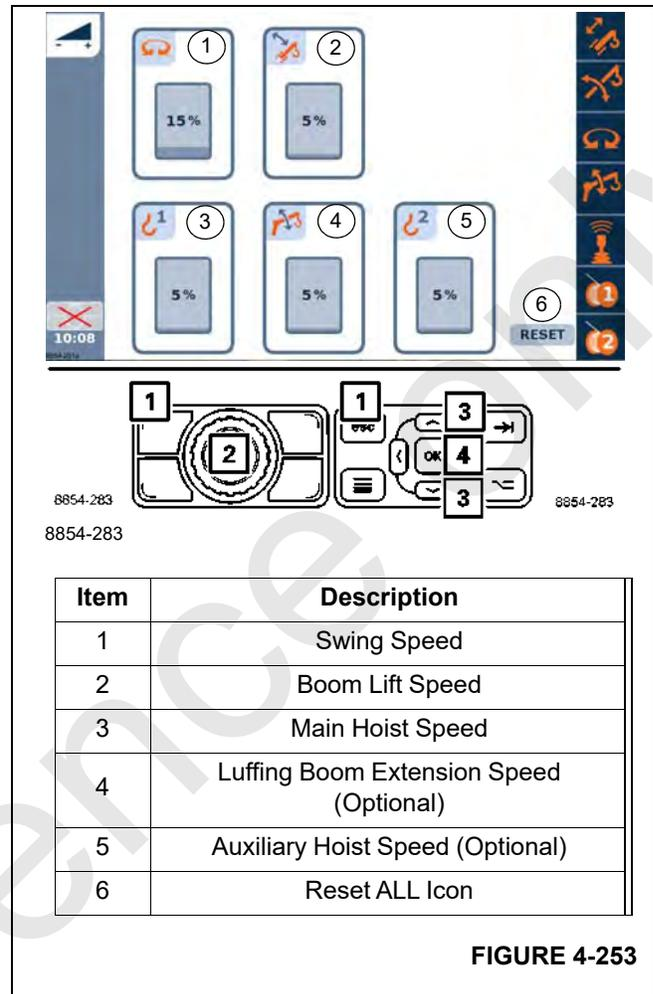

FIGURE 4-253
The values below the symbols (1) thru (5), (Figure 4-253) indicate the currently set controller function speeds.
The symbol (5), (Figure 4-253) is only active when the auxiliary hoist is connected.
Symbol (6), (Figure 4-253) resets all values without prior selection.
1. Using the Jog Dial (2), (Figure 4-253) or Arrow Buttons (3), (Figure 4-253) on the Navigation Control Pad, select the controller function icon that is to be adjusted (Icon will turn orange).
2. Press the Jog Dial (2), (Figure 4-253) or OK Button (4), (Figure 4-253) to make the controller function icon active (Icon background will turn gray).
3. Using the Jog Dial (2), (Figure 4-253) or the Up/Down Arrow Buttons, adjust the percentage to the desired setting.
Adjustments are made in 1% increments/decrements. To quickly make large adjustments, hold down the Jog Dial (2), (Figure 4-253) while rotating it.
4. Press the Jog Dial (2), (Figure 4-253) or OK (4), (Figure 4-253) Button to accept the new setting.
Select the Reset All icon (6), (Figure 4-253) on the Controller Speed function screen and press the Jog Dial or the OK Button to set all function speeds to the factory default setting of 100%.
To cancel the input – press button (1), (Figure 4-253) once.
- Confirm the changed values – press switch (2), (Figure 4-253) or OK button (4), (Figure 4-253) once. The changed values for the power unit are applied.